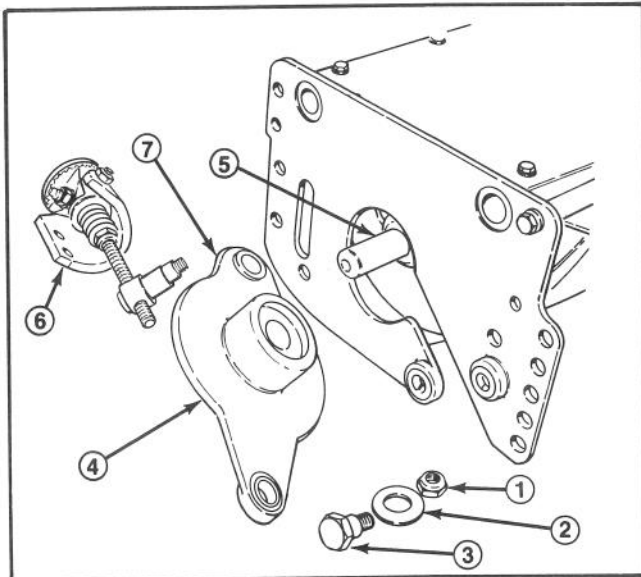

Figure 27
2. Remove the shoulder bolts, bushings and spacers from each end of the unit and remove the bedbar/bedknife assembly (Fig. 27).
3. Disassemble the stainless steel shim, belleville washer and locknut from the adjuster pin, the fasteners for the bracket and remove the adjusting handle assembly from the sideplate (Fig. 27).
4. Disassemble the cone nut from the shoulder bolt securing the bearing housing to the sideplate, remove the belleville washer and bolt and slide the bearing housing off the reel shaft (Fig. 27).
1. Inspect the flange bushings in the mounting holes for the drive housing and bearing housing for wear (Fig. 27). Replace, if necessary.
7. Insert the shoulder bolt through the Belleville washer and rear housing mounting hole. Slide the bolt through the sideplate mounting hole (Fig. 27). Install the cone nut locknut onto the bolt. Tighten the cone nut to 45 - 55 ft.-lbs.